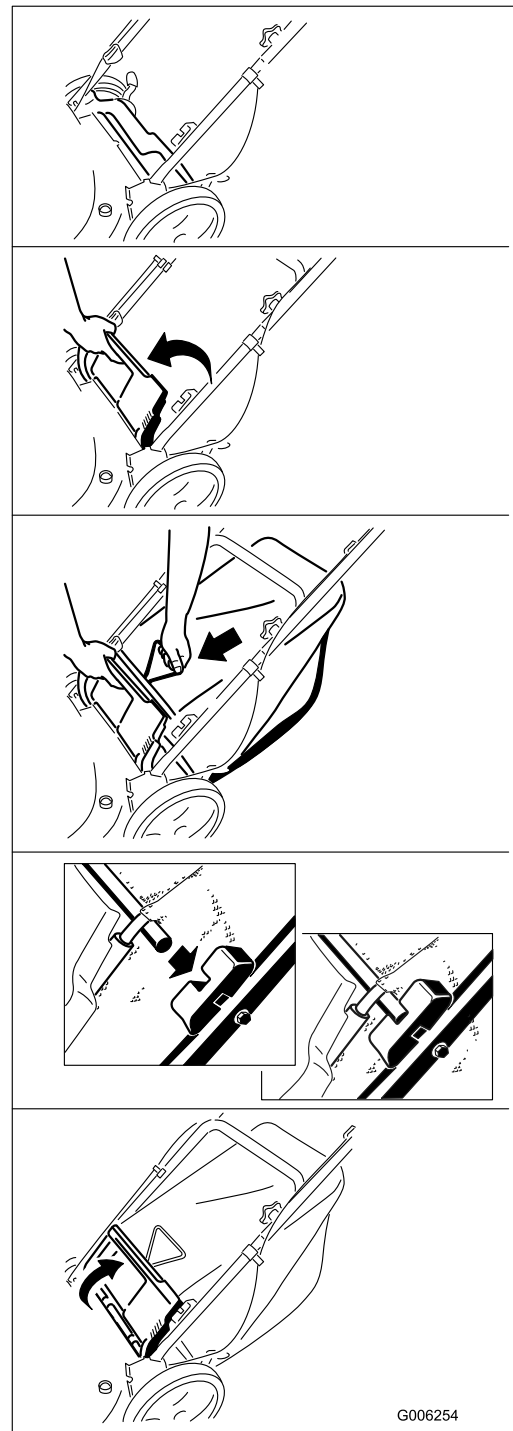

Figure 23
2. Install the grass bag (Figure 23).